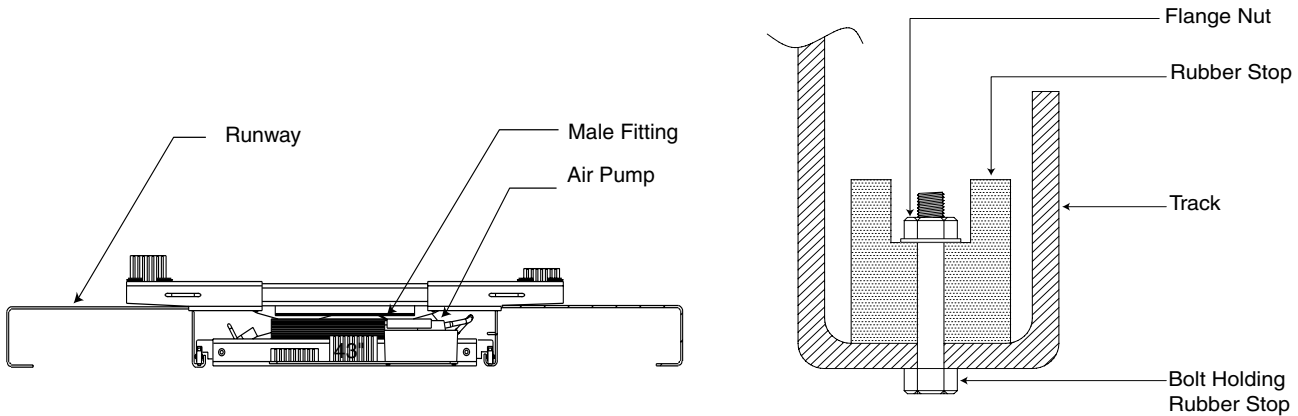

Fig. 29
- a. Adjust locking latch bar adjusting nut so that the bottom of the topmost latch bar slot is at least 2" below locking latch, Fig. 29. After adjustment, tighten jam nut underneath column top plate, Fig. 29.
- B. Place jack on runway track at front and rear with air pump facing ends of runway, Fig. 29.
- D. Attach rubber stop see Fig. 29.